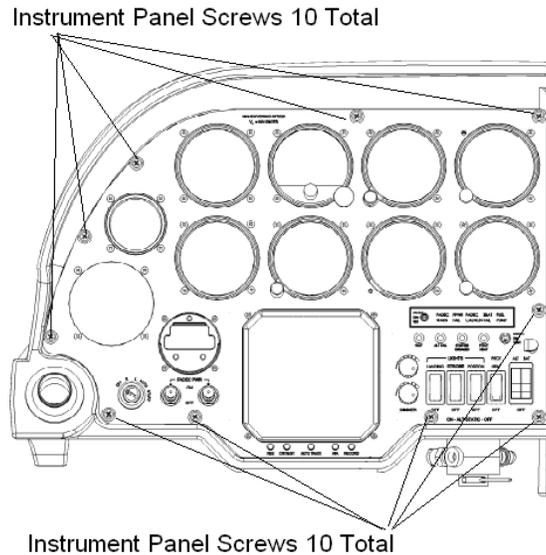

Figure 31-2 Instrument Panel Assembly Showing the Location of the Screws
3. Remove the ten screws that secure the Flight Instrument Panel assembly to the console. Refer to Figure 31-2 for the location of these screws.
5. Remove the ten screws securing the instrument panel to the instrument console. See Figure 31-2 for location of the screws.